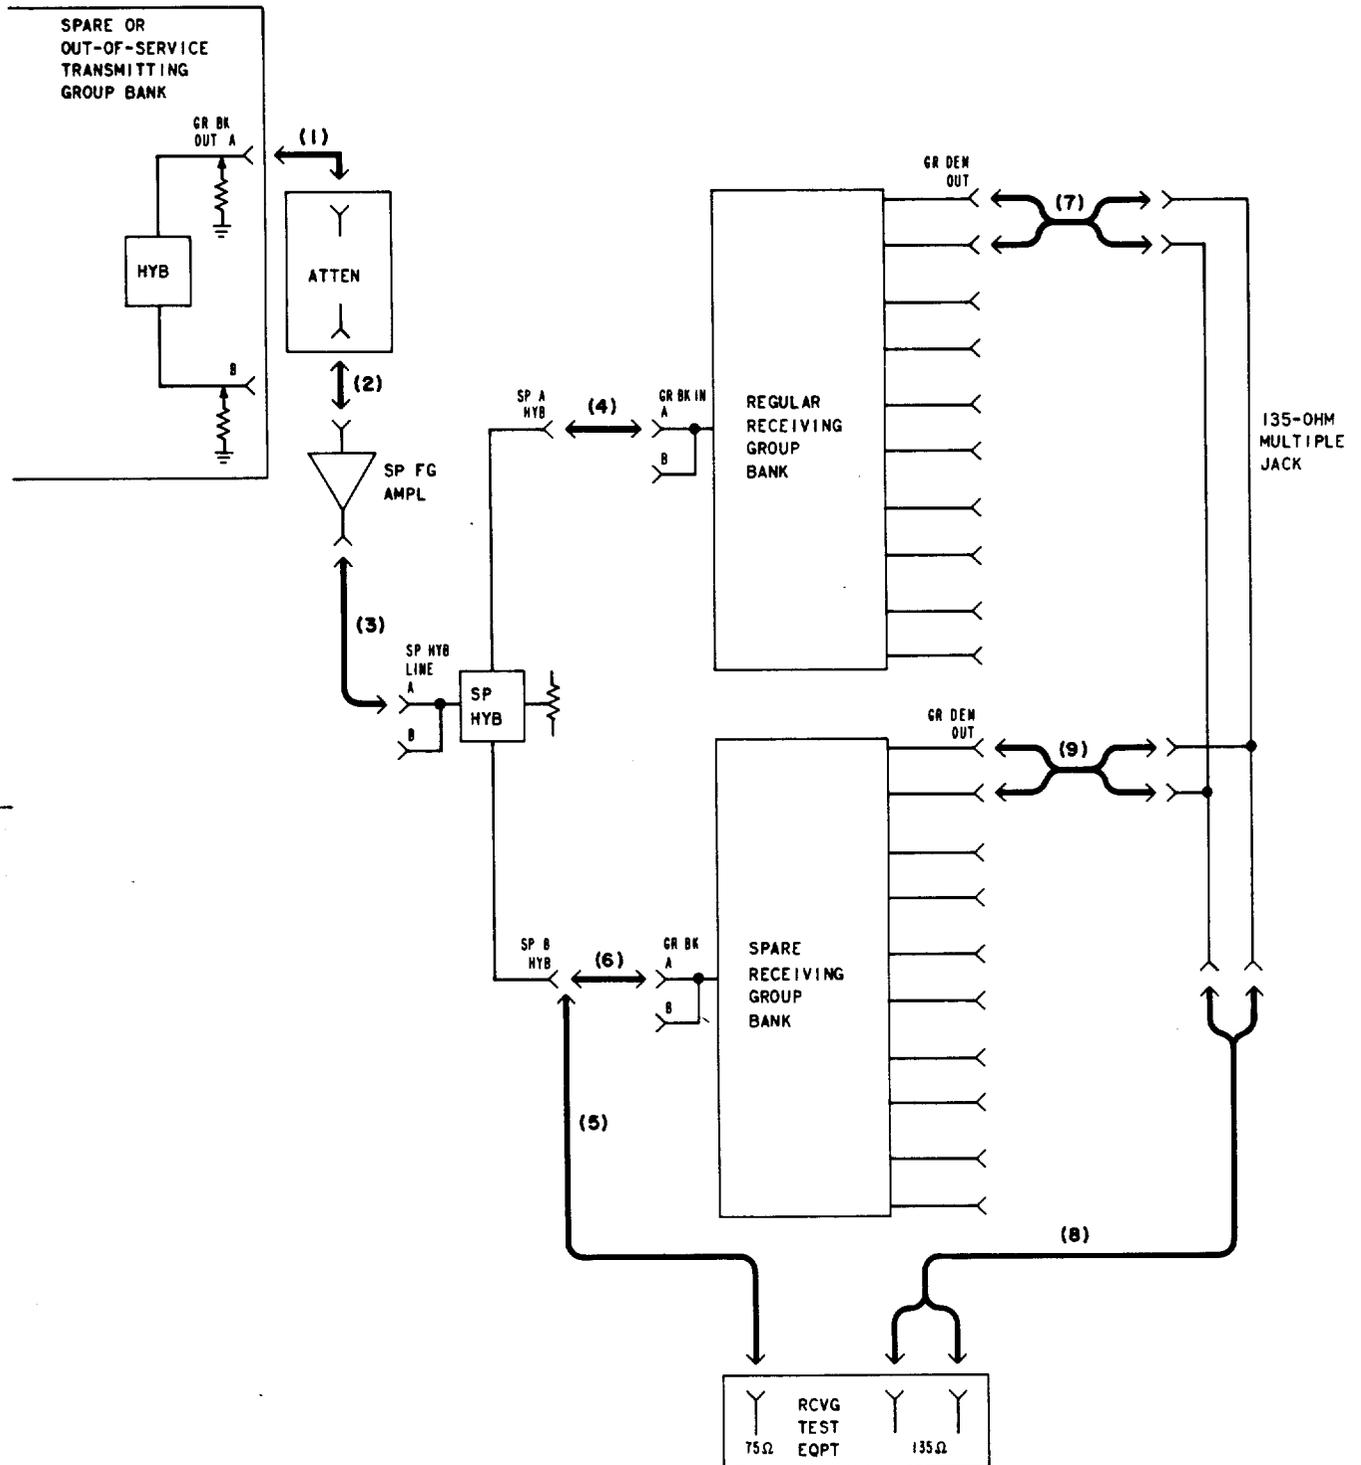

Fig. 2—Test Connections—Turnover Test
10	Disconnect the RTE [patch (5), Fig. 2].
11	Connect the SP B HYB jack to the GR BK IN A jack of the spare group bank being tested [patch (6), Fig. 2].
13	Connect the RTE, through a multiple jack, to the GR DEM OUT jacks of the regular group circuit being tested [patches (7) and (8), Fig. 2].
18	Disconnect the GR DEM OUT jacks of the regular group circuit from the multiple jack [patch (7), Fig. 2].
19	Connect the GR DEM OUT jacks of the corresponding circuit in the spare group bank to the multiple jack [patch (9), Fig. 2]. Note: Same numbered circuit as measured in Step 15
21	Connect the GR DEM OUT jacks of the regular group circuit to the multiple jack [patch (7), Fig. 2].
23	<p>If the requirement of Step 22 is met, proceed to Step 24. If it is not met, turnover exists in either the regular or spare group circuit or in the carrier supply circuit. Perform the following:</p> <ul style="list-style-type: none">(a) Disconnect patches (7) and (9), Fig. 2.(b) Locate and correct the wiring turnover.(c) Repeat Steps 13 through 22 to verify correction of the trouble.
25	Disconnect all test equipment [patches (1), (2), (3), (4), (6), (7), (8) and (9), Fig. 2].